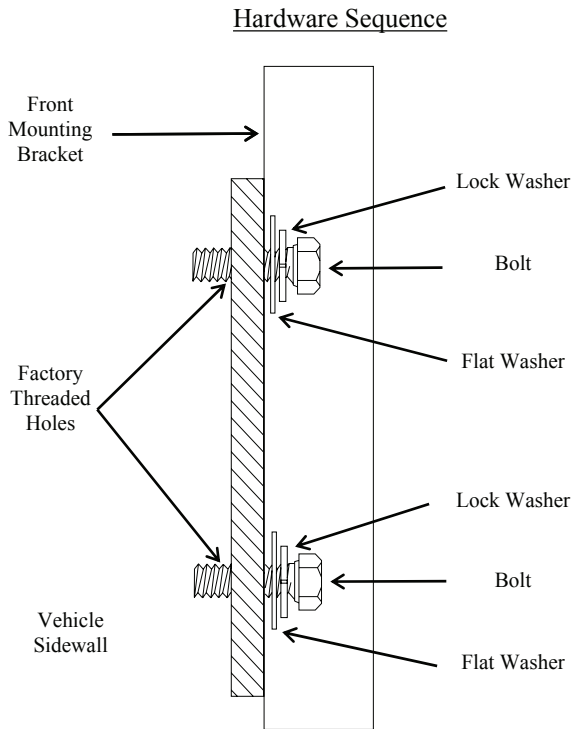

Fig. 4
- (c) Install and snug the bolts, lock washers, and flat washers to the factory threaded holes (loose enough so the bracket can still slide). (Figure 4)
- (b) Install and snug the bolts, lock washers, and flat washers to the factory threaded holes (loose enough so the bracket can still slide). (Fig. 4)